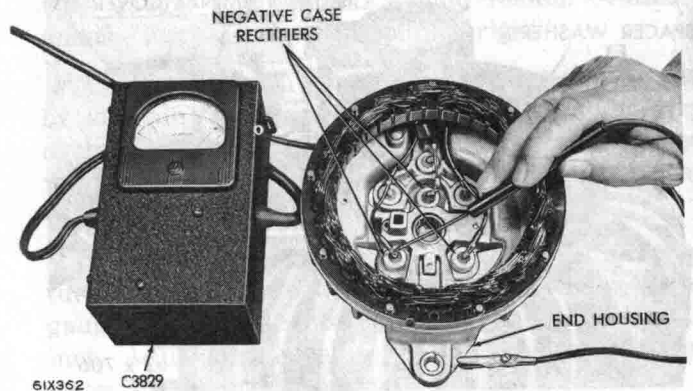

Fig. 36—Testing Negative Rectifiers
f. Negative Case Rectifier Test (Fig. 36)